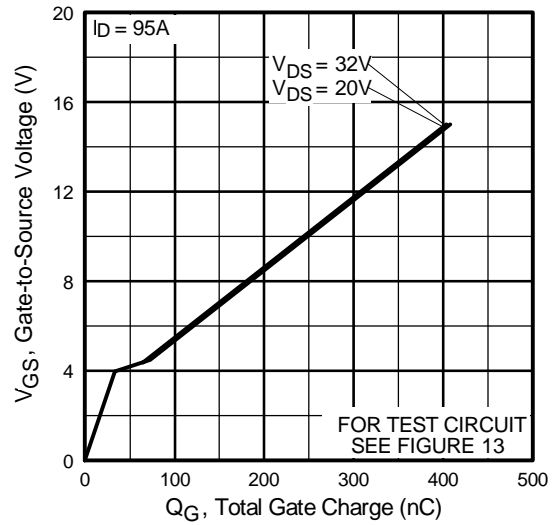

Fig 6. Typical Gate Charge Vs. Gate-to-Source Voltage
| Q_{gd} | Gate-to-Drain ("Miller") Charge | — | — | 60 | | $V_{GS} = 5.0V$, See Fig. 6 ④ |